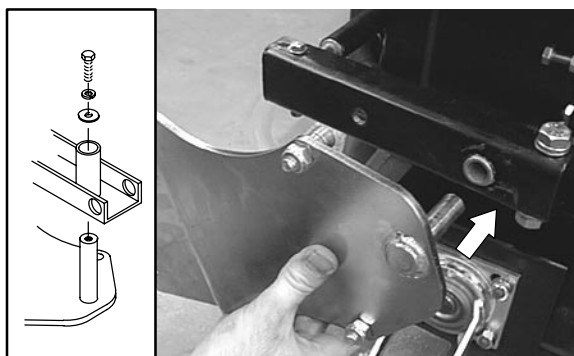

Fig. 24
12. Attach the new swivel plate to the squeegee pivot bracket as shown. Use 1/4-20x5/8 Screw, 1/4" lock washer and 1/4x1 flat washer (Figure 24).